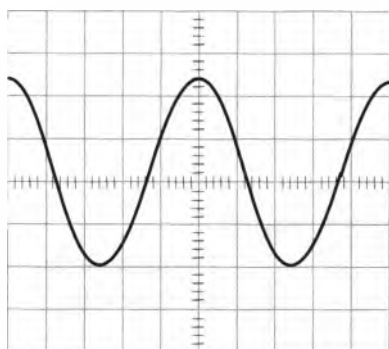

Figure 5
1. What is the peak-to-peak voltage of the sinewave in Figure 5 below if the *Vertical Attenuation* control is set to 0.1V/division?